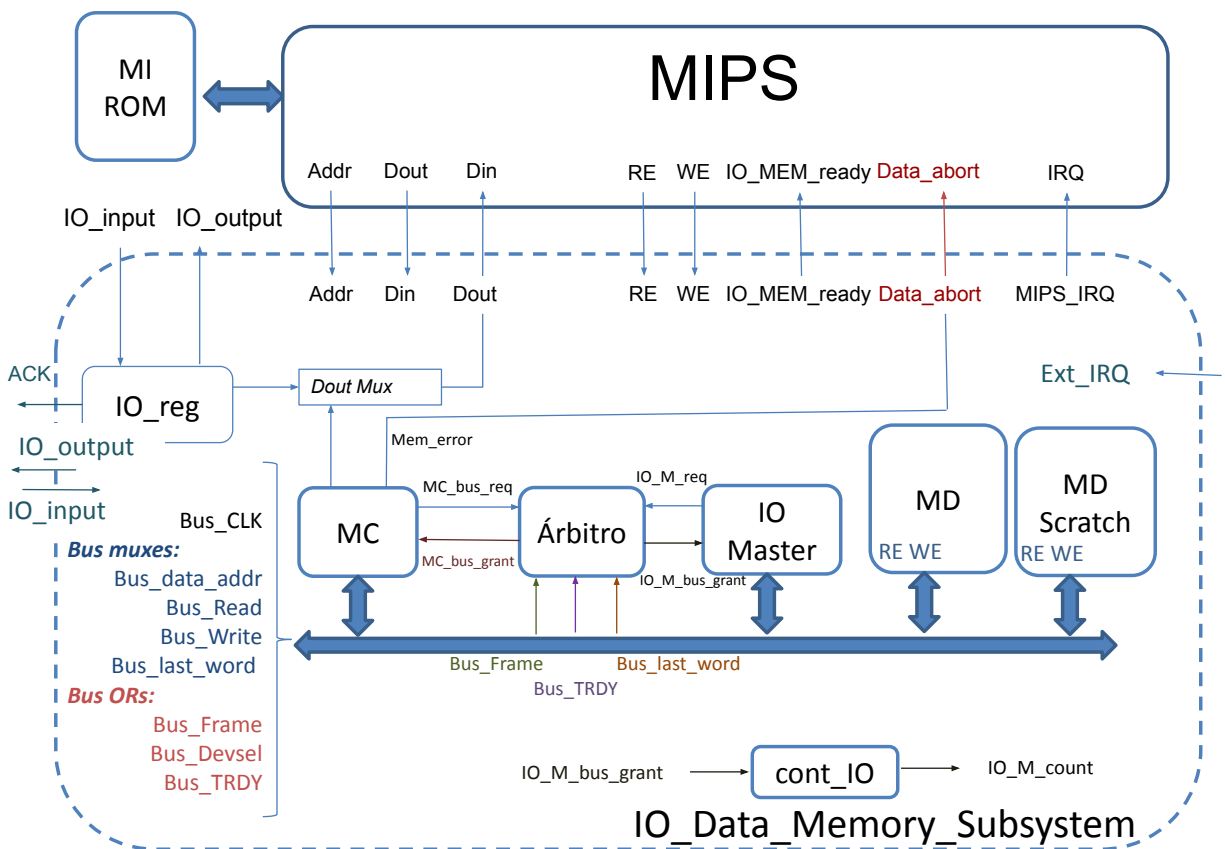

Figure 1: Principal components and signals in the IO_MD_subsystem. The assignment consists in designing the MC Control Unit.
The memory system comprises a cache memory (MC), a data memory (MD), a *scratch* memory (MD Scratch), a semi-synchronous bus, and an I/O peripheral (IO_Master). Both the MC and IO_Master controllers act as bus managers¹, so the bus requires an arbiter with dynamic priority assignment to prevent conflicts. The MIPS interface is identical to that of the first project. Fig. 1 shows the bus signal diagram.